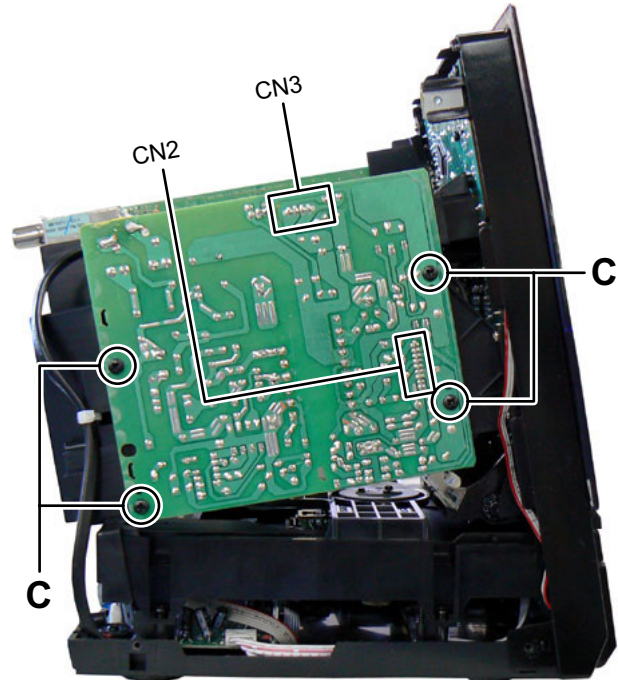

Fig.3
3.1.2 Removing the SMPS board (See Fig.3)